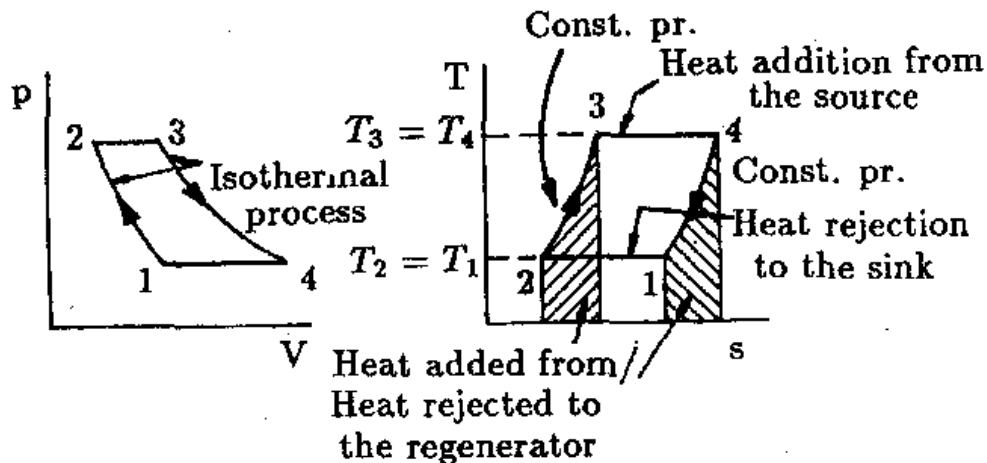

Fig. 3.4 Ericsson Cycle
- It consists of two isothermal processes and two constant pressure processes as shown in Fig. 3.4.